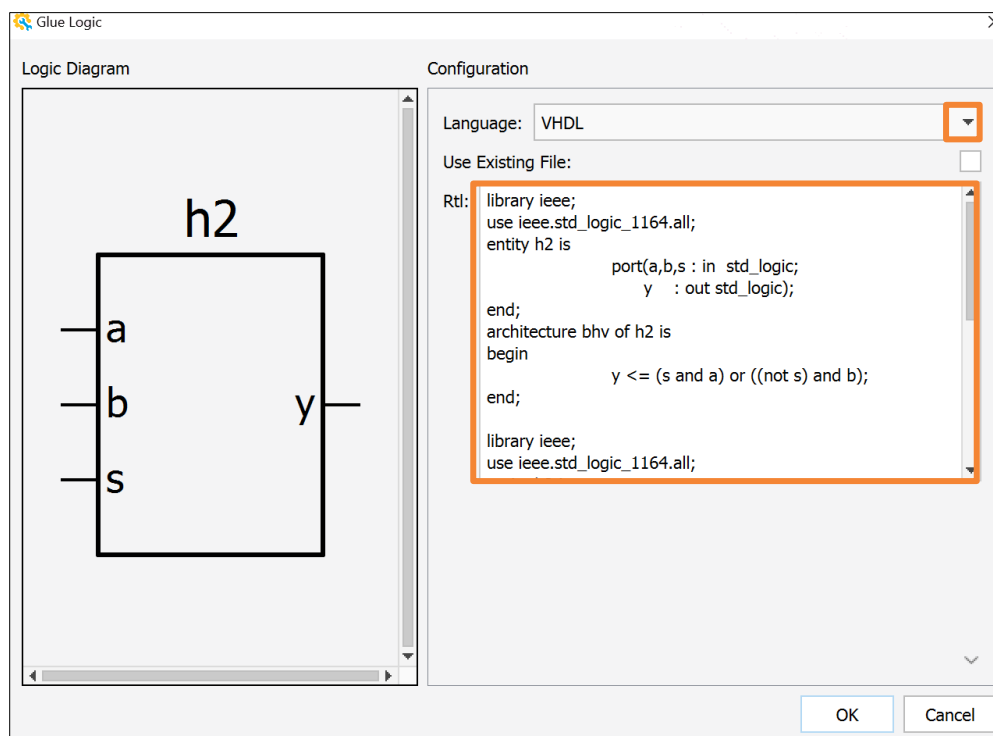

Figure 2.56. Glue Logic Wizard for RTL Module
1. From the IP Catalog, select the RTL module. Double-click the RTL module or drag and drop the RTL module to the Schematic view. A Glue Logic wizard pops up (Figure 2.56). Glue Logic supports both Verilog HDL and VHDL. You can use the drop-down menu to choose a desired language.
2. You can edit your own RTL module in the **RTL** area by entering the RTL module function (Figure 2.56).